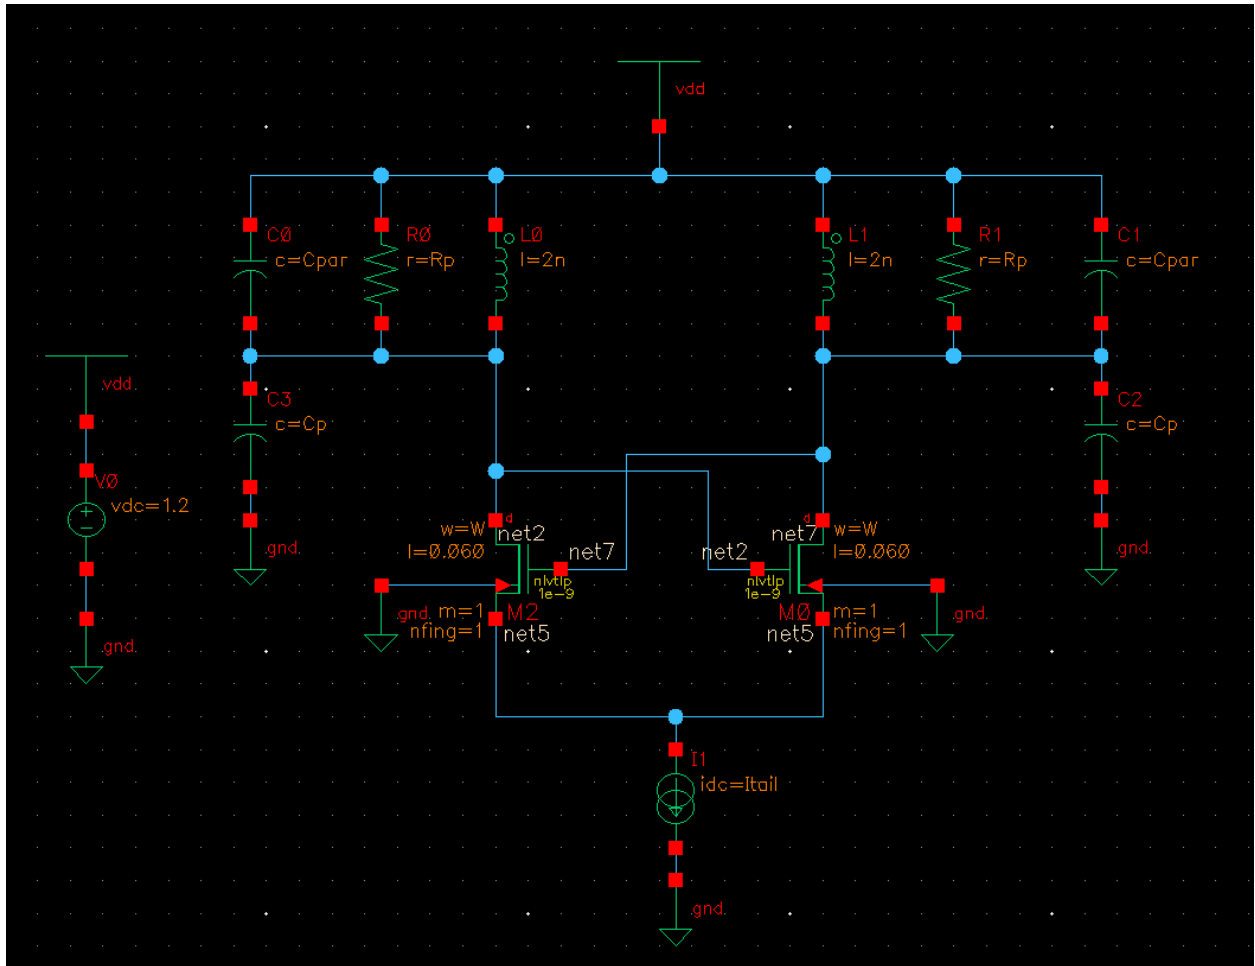

Figure 1: Cross-coupled LC oscillator.
- Draw the schematic according to Fig. 1.